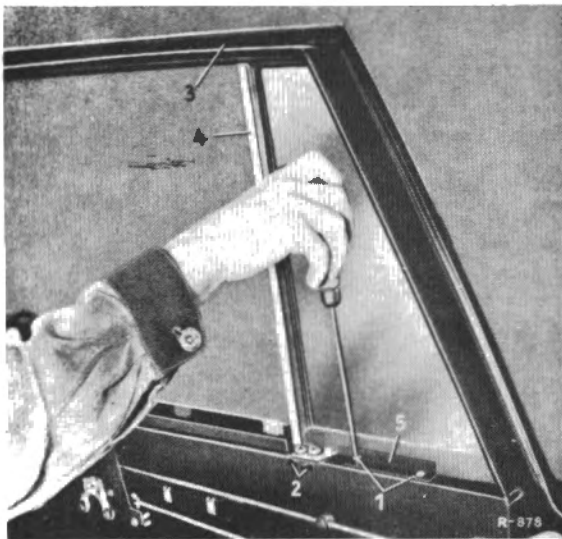

Fig. 73-13/1
5. Unscrew the two fixing screws (1) at the stop bracket (5) and remove the stop bracket (5) (Fig. 73-13/1).